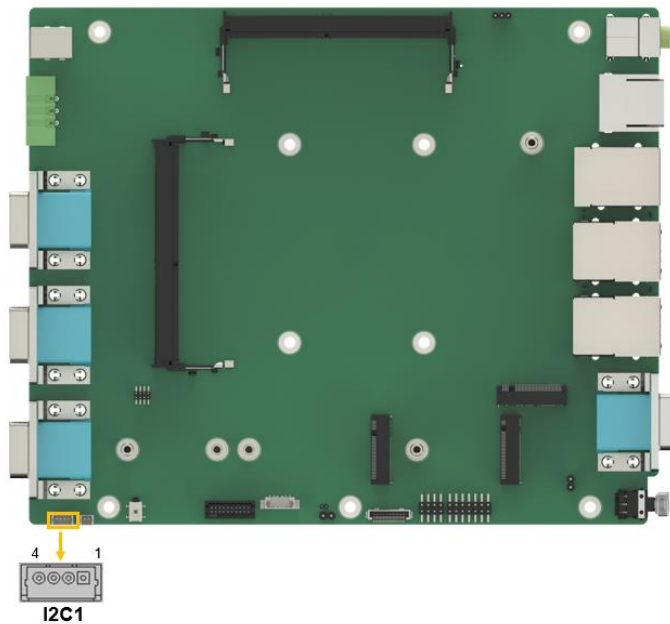

Figure 4-13: I²C Connector Location
- CN Location:** See **Figure 4-13**